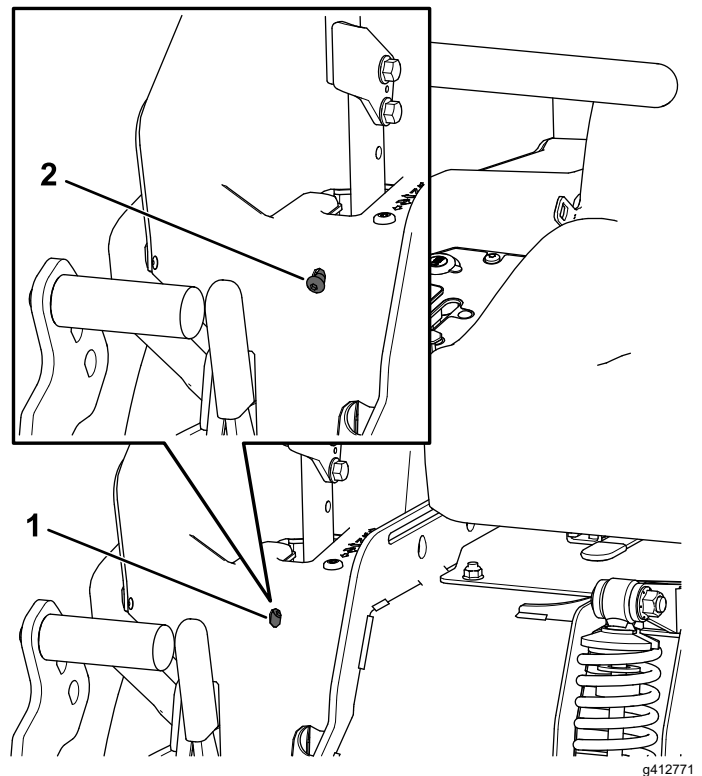

Figure 81
6. If the machine tracks to the right, insert a 3/16 inch hex wrench through the access hole in the left, front cover panel and rotate the tracking screw clockwise or counterclockwise to adjust the travel of the lever (Figure 81).
7. If the machine tracks to the left, insert a 3/16 inch hex wrench through the access hole in the right, front cover panel and rotate the tracking screw clockwise or counterclockwise to adjust the travel of the lever (Figure 81).